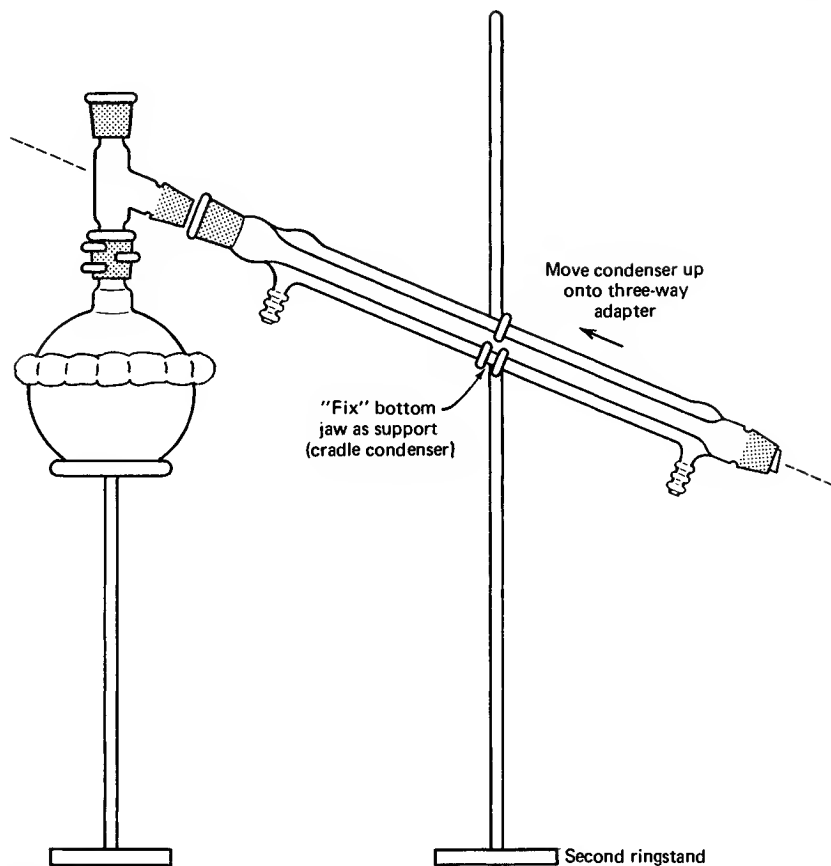

Fig. 70 Clamping the condenser without arthritic joints.
6. Place the two-prong clamp jaw in line with the condenser. Attach the condenser to the three-way adapter (Fig. 70). Hold everything! Sure. OK, *loosen extension clamp holder thumbscrew*, turn clamp to correct angle, and tighten. Now the height—up just a bit—Good! The lower “fixed” jaw cradles the condenser. *Tighten the ringstand thumbscrew (Arrrgh!) Clamps tend to move up ever so slightly as you tighten the fastener on the ringstand.*
7. Bottom jaw supports condenser—check. Joint at the three-way adapter/condenser OK? Good. Tighten wing nut and *bring the single-prong jaw down onto condenser* (Fig. 70). Not too tight.